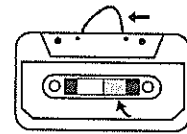
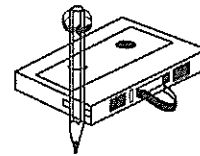

Fig.1
Fig.2
- Check that there are no loose layers of tape visible through the cassette center window (see Fig. 1). Take up any loose layers, using a pencil or hexagonal barrelled ballpoint pen, before inserting the cassette into the machine (see Fig. 2).
- If the cassette feels "tight" while performing operation shown (see Fig. 2), the tape may be jamming due to "ridges" formed in the winding of the tape (visible through the center window). These may be removed, in most cases, by fast winding of the cassette from one end to the other and back again.